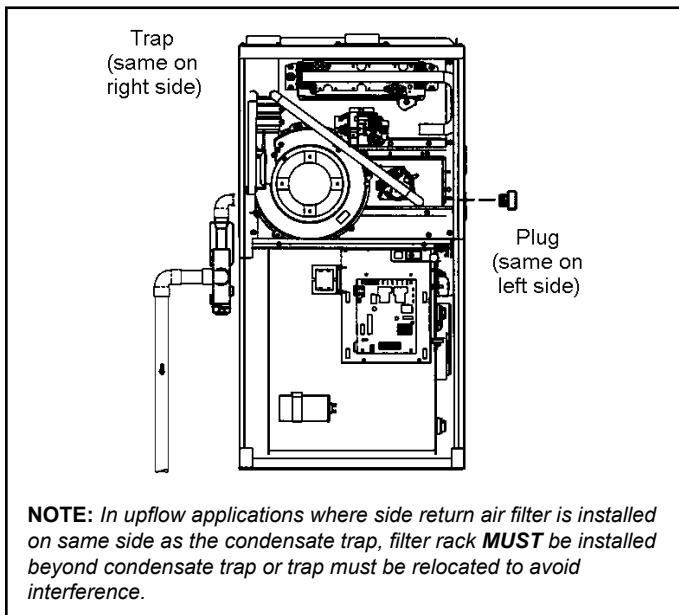
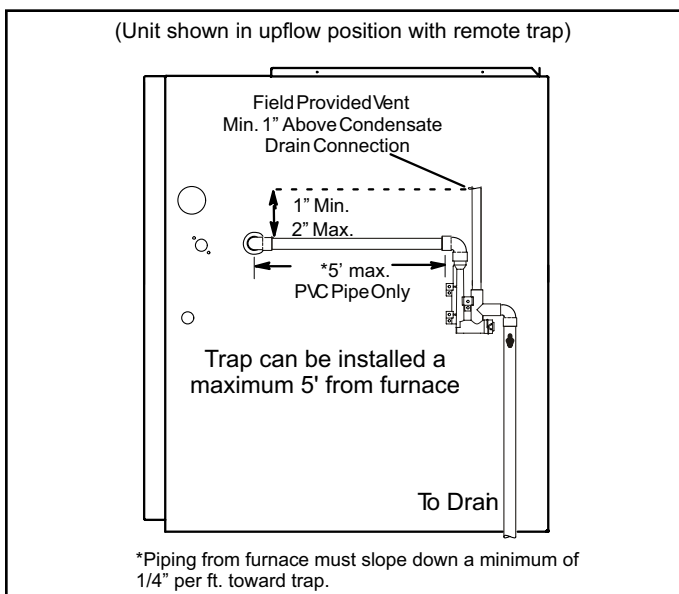
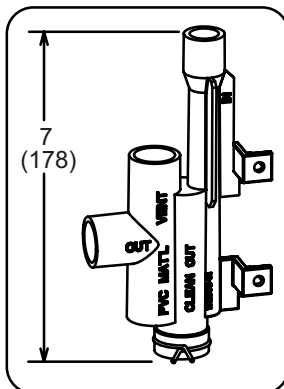

Figure 41. Condensate Trap and Plug Locations (unit shown in upflow position)
Figure 42. Condensate Trap Locations
Figure 50. Trap / Drain Assembly Using 1/2" PVC or 3/4" PVC Cold End Header Box with 1/2 Drain Connection
This unit is designed for either right- or left-side exit of condensate piping in upflow applications. In horizontal applications, the condensate trap must extend below the unit. An 8" service clearance is required for the condensate trap. Refer to Figure 41 and Figure 42 for condensate trap locations. Figure 49 and Figure 50 show trap assembly using 1/2" PVC or 3/4" PVC.
2. For furnaces with a 1/2" drain connection use a 3/8 allen wrench and remove plug (Figure 41) from the cold end header box at the appropriate location on the side of the unit. Install field-provided 1/2 NPT male fitting into cold end header box. For furnaces with a 3/4" drain connection use a large flat head screw driver or a 1/2" drive socket extension and remove plug. Install provided 3/4 NPT street elbow fitting into cold end header box. Use Teflon tape or appropriate pipe dope.
3. Install the cap over the clean out opening at the base of the trap. Secure with clamp. See Figure 49 and Figure 50.
4. Install drain trap using appropriate PVC fittings, glue all joints. Glue the provided drain trap as shown in Figure 49 and Figure 50. Route the condensate line to an open drain. Condensate line must maintain a 1/4" downward slope from the furnace to the drain.